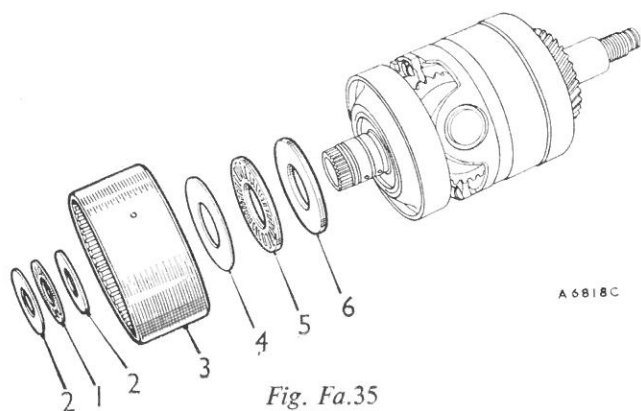

Fig. Fa.35
- (2) Remove the top and reverse clutch.
- (3) Remove the thrust race and washers (Fig. Fa.35).